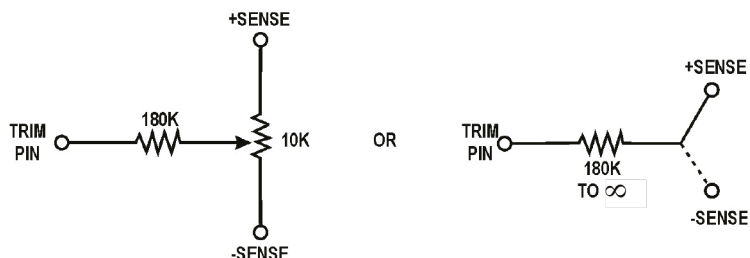

Figure 6 - Output Voltage Adjustment (V1 & V2)
- 13.3 Output Voltages.** Each output voltage is factory set to its nominal value to an accuracy of $\pm 1\%$. The V1 and V2 output voltages can be more accurately adjusted to a value within a $\pm 5\%$ range by means of external components as shown in Figure 6. Also be aware of the output voltage polarities as shown in the Model Suffix Selector in Appendix 1.